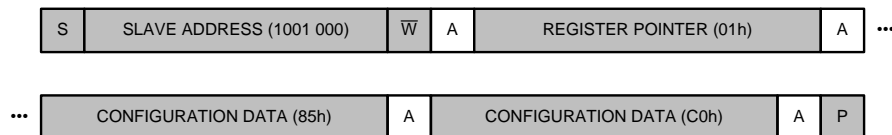
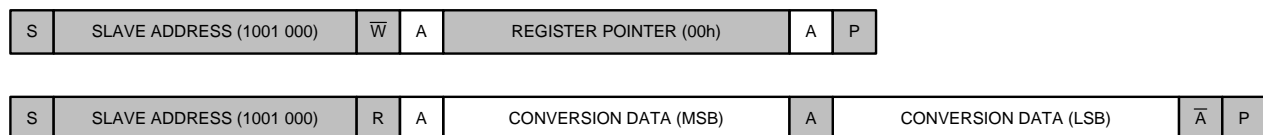

Figure 21. Write the Configuration Register
Figure 23. Read the Conversion Data Register
1. Write the configuration register as shown in Figure 21 to configure the device (for example, write MUX[2:0] = 000, PGA[2:0] = 010, MODE = 1, and DR[2:0] = 110) and start a single-shot conversion (OS = 1):
3. Then, as shown in Figure 23, read the conversion data register:
To save time, a new conversion can also be started (step 4) before reading the conversion result (step 3). Figure 24 lists a legend for Figure 21 to Figure 23.